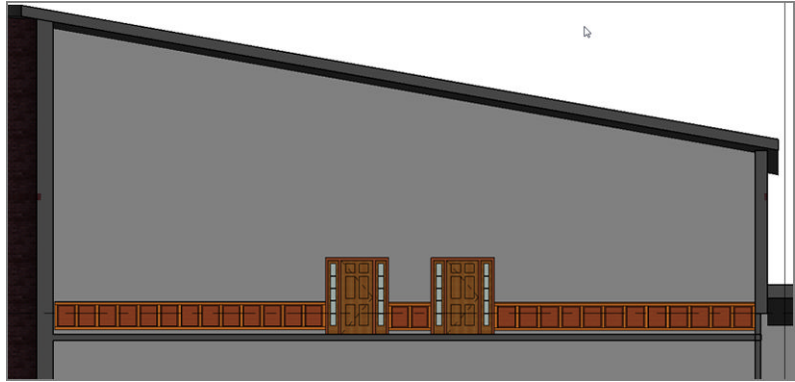

FIGURE 10.79: The finished raised-panel, line-based family
22. Change Visual Style to Realistic. Your elevation should look like Figure 10.79.